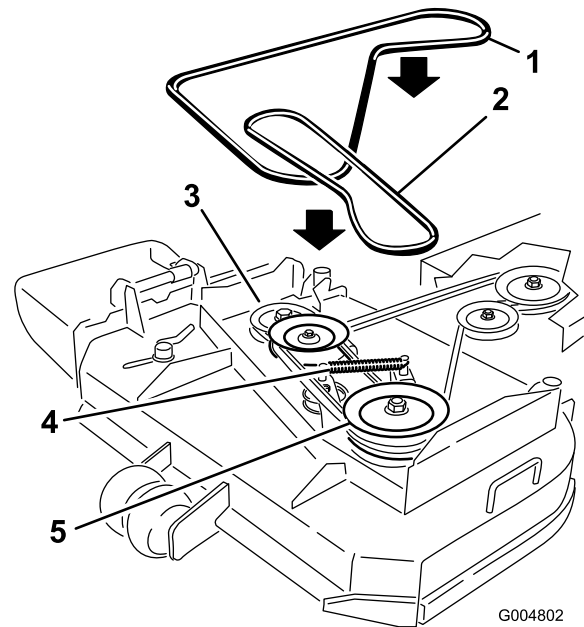

Figure 44
6. Disconnect the idler arm spring to relieve tension on the idler arm and idler pulley, then remove the worn mower belt (Figure 44).
7. Install the new mower belt around the two outside spindle pulleys, the idler pulley, and in the lower groove of the double spindle pulley (Figure 44).
8. Connect the idler arm spring (Figure 44).
10. Adjust the belt guide an 1/8 inch (3 mm) from the belt (Figure 44).